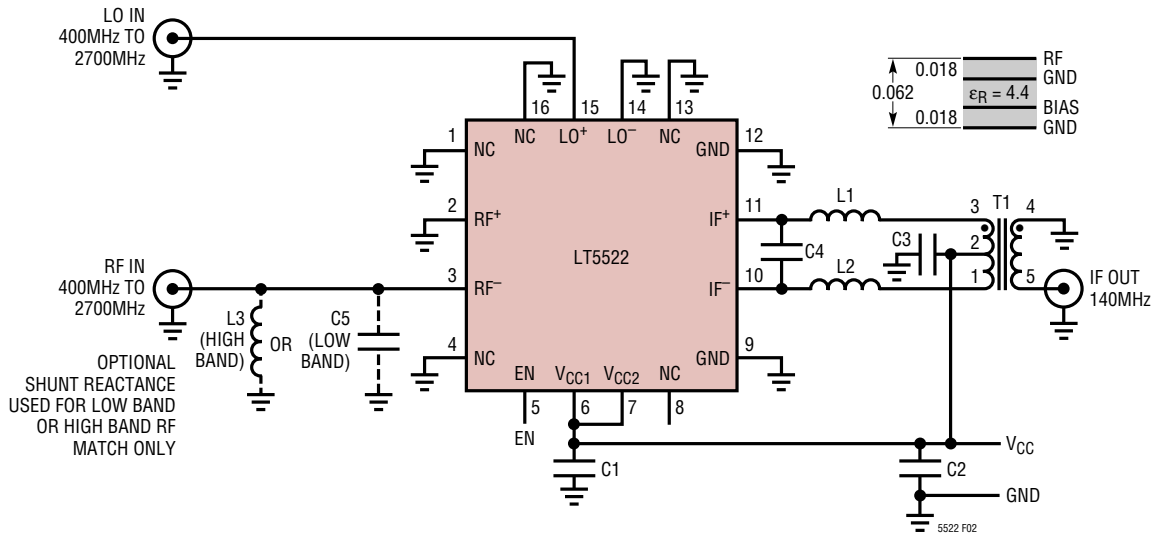
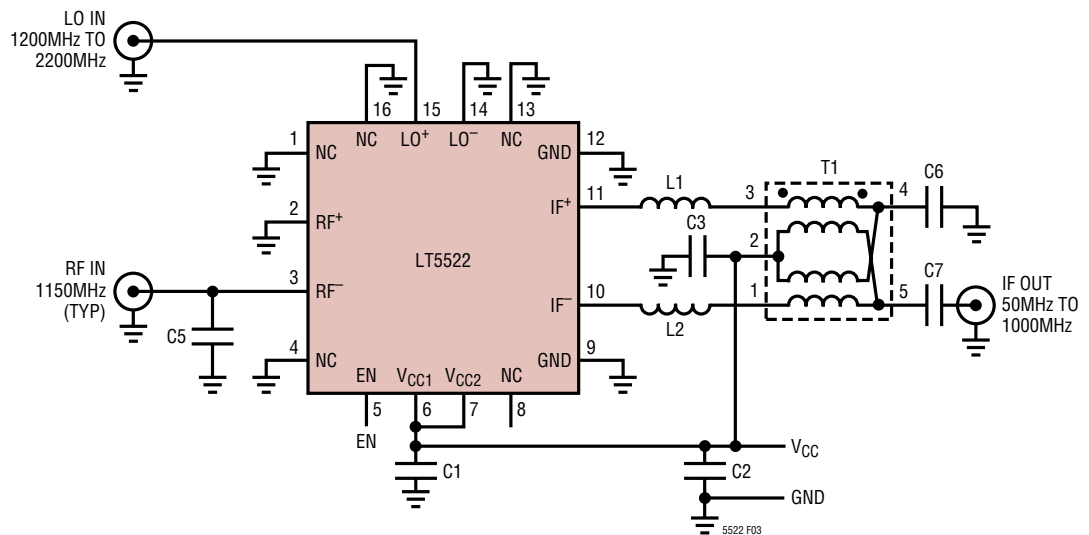

Figure 2. Test Schematic for Downmixer Application (140MHz IF) (DC689A)
Figure 3. Test Schematic for CATV Infrastructure Downmixer Application (50MHz to 1000MHz IF) (DC651A)
**TYPICAL AC PERFORMANCE CHARACTERISTICS** Low-band RF ( $C5 = 2.2\text{pF}$ ) and high-band RF ( $L3 = 3.9\text{nH}$ )  $V_{CC} = 5\text{V}$ ,  $EN = \text{High}$ ,  $T_A = 25^\circ\text{C}$ ,  $P_{RF} = -7\text{dBm}$  ( $-7\text{dBm}/\text{tone}$  for 2-tone IIP3 tests,  $\Delta f = 1\text{MHz}$ ),  $P_{LO} = -5\text{dBm}$ , IF output measured at  $140\text{MHz}$ , unless otherwise noted. (Test circuit shown in Figure 2).
$V_{CC} = 5V$ ,  $EN = High$ ,  $T_A = 25^\circ C$ ,  $P_{RF} = 1150MHz$  at  $-12dBm$  ( $-12dBm/$ tone for 2-tone IIP3 tests,  $\Delta f = 1MHz$ ), LO swept from  $1200MHz$  to  $2200MHz$ ,  $P_{LO} = -5dBm$ , IF output measured from  $50MHz$  to  $1050MHz$ , unless otherwise noted. (Test circuit shown in Figure 3)
**TYPICAL AC PERFORMANCE CHARACTERISTICS** 450MHz Application (C5 = 8.2pF, 5mm away from Pin 3)  $V_{CC} = 5V$ , EN = High,  $T_A = 25^\circ C$ ,  $P_{RF} = -7dBm$  (-7dBm/tone for 2-tone IIP3 tests,  $\Delta f = 1MHz$ ),  $P_{LO} = -5dBm$ , IF output measured at 140MHz, unless otherwise noted. (Test circuit shown in Figure 2)
**TYPICAL DC PERFORMANCE CHARACTERISTICS** (Test circuit shown in Figure 2)
The IF output can be matched for IF frequencies as low as 100kHz or as high as 1GHz. The RF, LO and IF ports are all differential, although the RF and LO ports are internally matched for single-ended drive as shown in Figure 2. The LT5522 is characterized and production-tested with single-ended RF and LO drive. Low side or high side LO injection can be used.
Two evaluation boards are available. The standard board is intended for most applications, including cellular, PCS, UMTS and 2.4GHz. A schematic is shown in Figure 2 and the board layout is shown in Figure 18. The 140MHz IF output frequency on the standard board is easily changed by modifying the IF matching elements. The second board, intended for CATV applications, incorporates a wideband IF output balun. The CATV evaluation schematic is shown in Figure 3 and the board layout is shown in Figure 19.